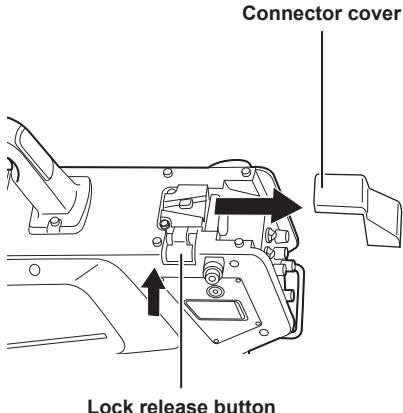

Fig. 1
**2** Press the lock release button on the camera and remove the connector cover. (Fig. 1)